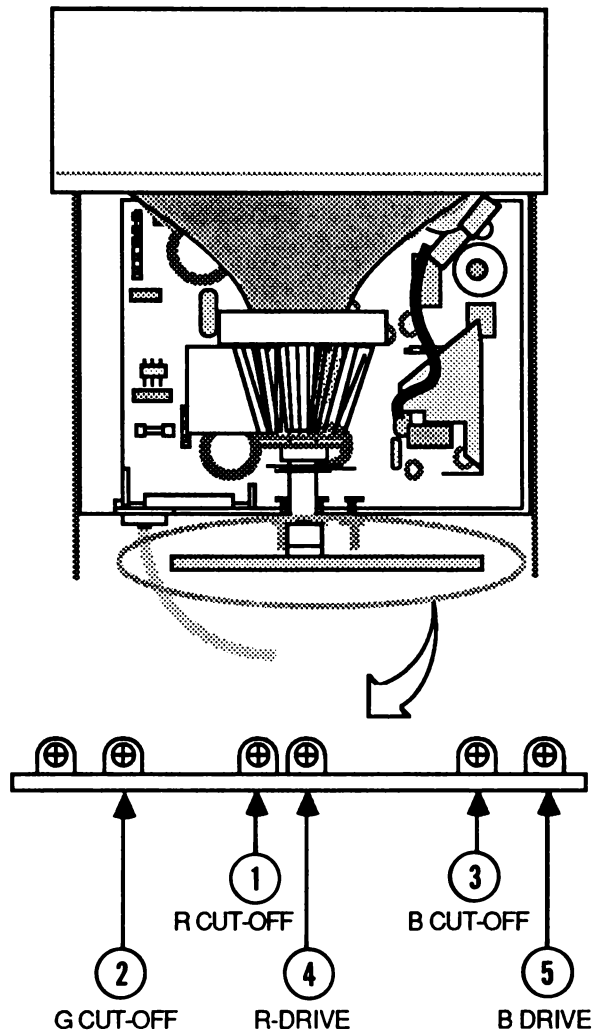

FIGURE 9
- R-CUT-OFF (red) - Figure 9, #1
- G-CUT-OFF (green) - Figure 9, #2
- B-CUT-OFF (blue) - Figure 9, #3
12. Adjust either or both DRIVE controls (Figure 9, #4 and #5) until the screen is a neutral gray. (If you cannot get the screen color balanced to gray, go back to step 3 and repeat the procedure again, making sure that the low-intensity line of step 8 is really a neutral white.)